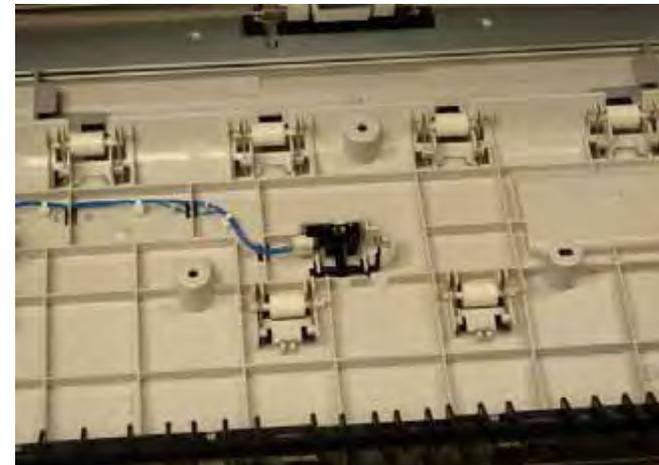

Figure 6 Duplex Sensor
7. Remove the Duplex Sensor (Figure 6).